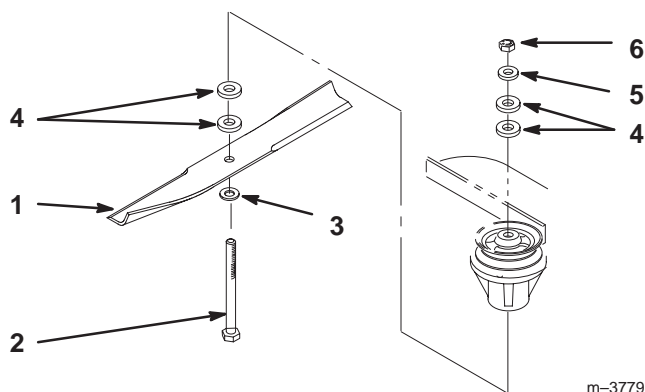

Figure 21
2. Hold blade bolt and remove nut. Slide bolt down, through spindle, and change spacers as required (Fig. 21).
3. Insert bolt, add extra spacer(s), and secure with thin washer and nut (Fig. 21).